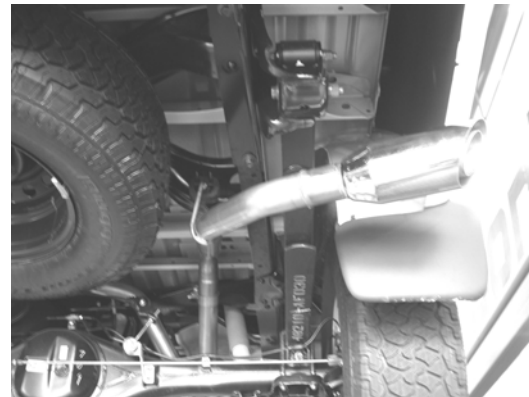

Figure 6
4. Place a clamp over the expanded end of both left and right tail pipe assemblies and place into position installing the hangers into the rubber brackets as shown in figure 6.